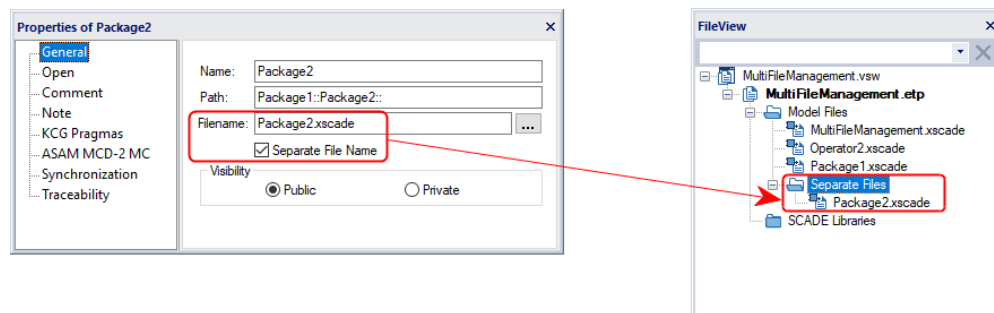
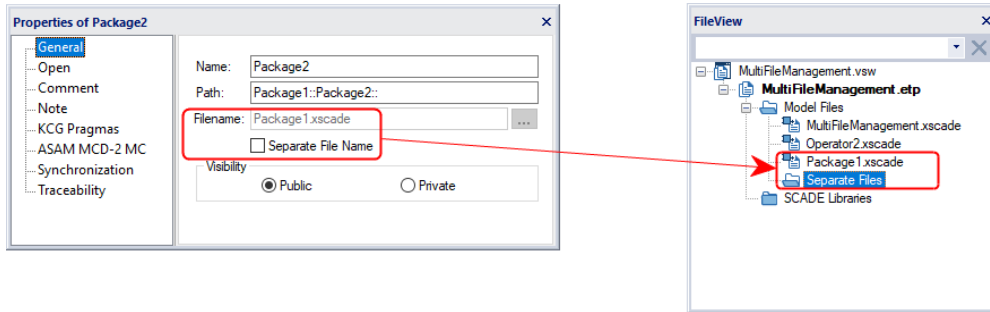

Figure 1.18: File Management settings at object level: default file separation enabled
Figure 1.19: File Management settings at object level: default file separation disabled
- Uncheck to save the selected child operator or sub-package in the same file as the package containing the object declaration (see Figure 1.18 and Figure 1.19).